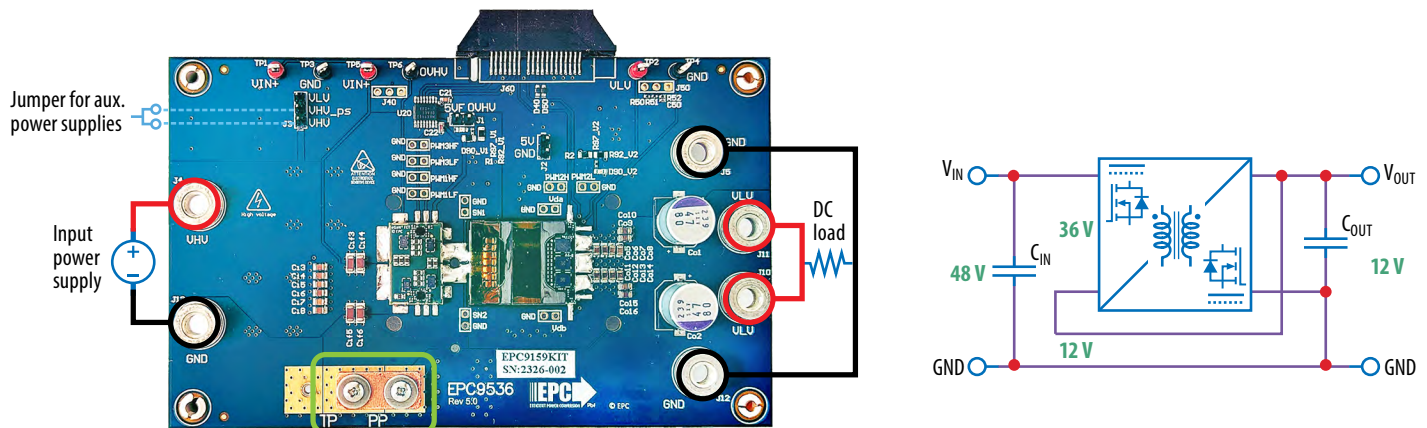

Figure 6: Left: Power connections and configuration for operation in Partial Power Mode. Right: Block diagram of the converter in Partial Power Mode.
Note the position of the copper bar in the lower left of the board shown in figure 6. It connects the two exposed copper pads above the “PP” label. The right exposed pad is the VLV net (Output voltage) and the left pad, the 0VHV net. This configuration causes the 0VHV node to float above GND, hence the need for a floating 5V auxiliary supply (5VF), and a digital isolator to level shift the PWM signals coming from the controller card, which is referenced to GND.
The EPC9159KIT evaluation kit was designed to easily evaluate the performance of EPC2619 and EPC2067 in a high efficiency high-power-density LLC converter. Refer to figures 6 or 7, 8 & 9 for proper power connections and measurement setup, and follow the procedure below to operate the board:
1. Make sure the Auxiliary Power Supply Selector is installed between VHV and VHV\_ps (see figures 6 or 7 for its location). In this position, the input for the auxiliary power supplies is connected to VHV.
3. Make sure the copper bar for the mode selector is installed properly. The default configuration is Partial Power Mode and is shown in figure 6.
4. With power off, connect a power supply as shown in figure 6 or 7. A shunt resistor can be inserted in series with the positive supply to measure the DC input current to the board.
5. With power off, connect a suitable load as shown in figure 6 or 7.